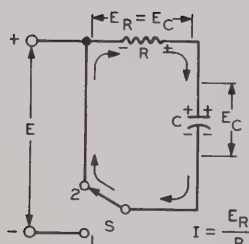

Figure 8
To start the discharge period, switch S is placed in position 2, as shown in Figure 8, thus disconnecting the voltage source, and connecting the resistor directly across the capacitor. Now the capacitor becomes the voltage source. The capacitor discharges by forcing electrons from its negative plate through the switch, S , and resistor, R , to its positive plate, as indicated by the arrows.
In the circuit of Figure 8, the capacitor is the voltage source. Therefore, the resistor and capacitor voltages are equal at all times during the discharge period. Curve 2 of Figure 3 represents the resistor voltage. Always proportional to the voltage causing it, the discharge current has a high initial value which then decreases at the same rate as the resistor voltage. Thus, curve 2 of Figure 3 also represents the discharge current of Figure 8.
20. How does the voltage vary across the resistor and capacitor in Figure 8 during discharge?
21. Assume that R has a value of $10\text{ k}\Omega$ and C has a value of $.25\text{ }\mu\text{F}$ in the circuit of Figure 8. Assuming that the capacitor was charged to 250 volts, what is the capacitor voltage after 3 time constants? How long does it take for the capacitor to fully discharge?